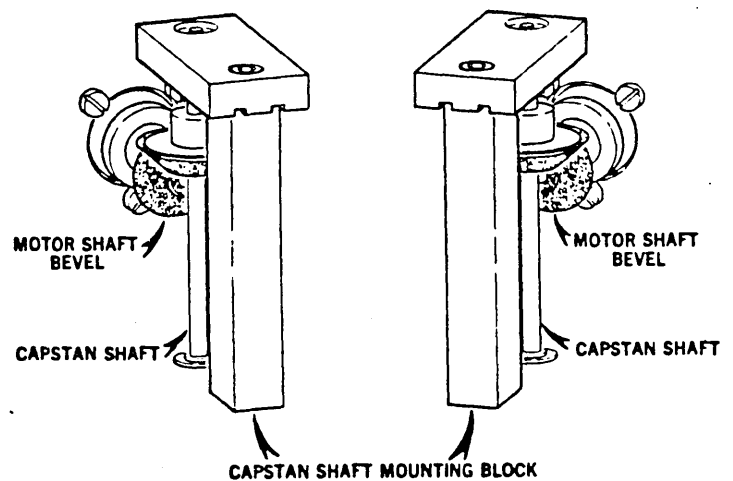

Figure 1
2. From the front of the machine, sight down both edges of the capstan shaft mounting block, lining them up with the edges of the capstan shaft. (See Figure 1.) Note the amount of motor shaft bevel gear visible from both sighting positions.
3. Adjust motor position until the same amount of motor shaft bevel is visible from both sighting positions. (See Figure 1.) Then tighten the capstan motor mounting screws.